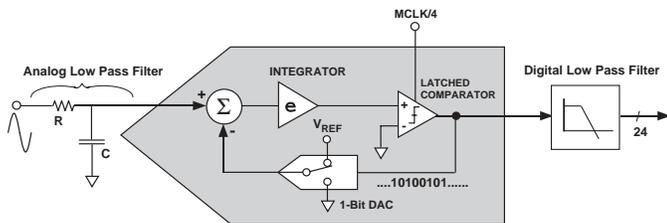

Figure 17- First Order Sigma-Delta (Σ - Δ) ADC
The analog-to-digital conversion in the ADE7753 is carried out using two second order sigma-delta ADCs. For simplicity reason, the block diagram in Figure 17 shows a first order sigma-delta ADC. The converter is made up of two parts: the sigma-delta modulator and the digital low pass filter.
Figure 17 also shows an analog low pass filter (RC) on the input to the modulator. This filter is present to prevent aliasing. Aliasing is an artifact of all sampled systems. Basically it means that frequency components in the input signal to the ADC which are higher than half the sampling rate of the ADC will appear in the sampled signal at a